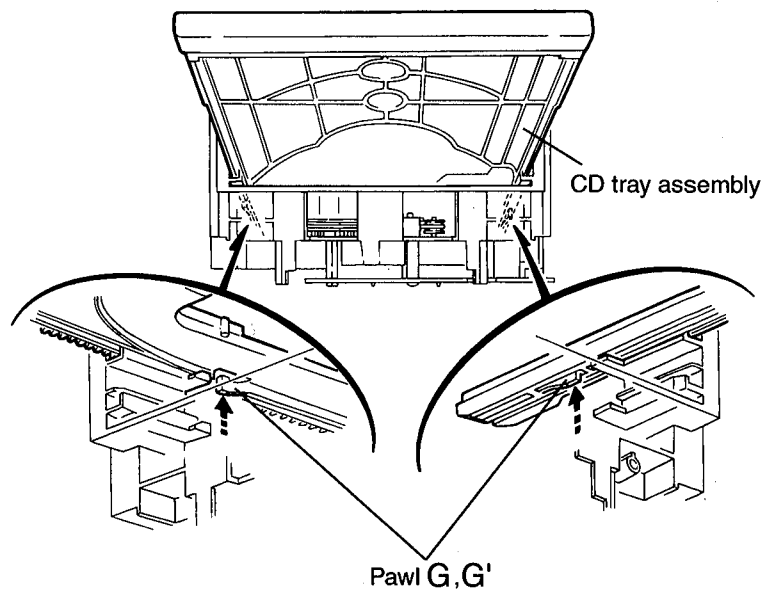

Fig.9
15. At the position where the CD tray assembly has stoppend, pull out the CD tray assembly while pressing the two pawls "G and G'" on the back side of CD tray assembly(See Fig.9). In this case, it is easy to pull out the assembly when it is pulled out first from the stage CD tray assembly.